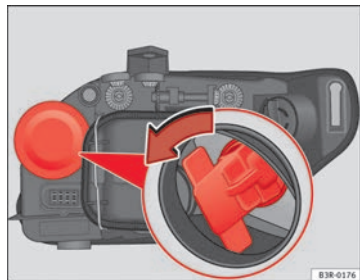

Fig. 221 Turn signal bulb
- Remove the bulb holder by pulling on the grip and turning it anticlockwise ⇒ Fig. 221.